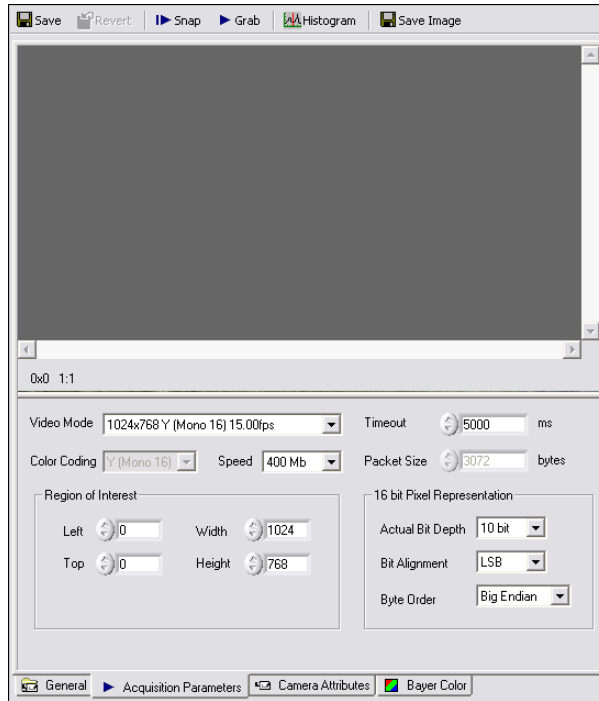

Figure 2. Setting Camera Attributes
8. Select the camera from the list. You then can view or modify the camera attributes from the **Properties Panel** located below the image viewer, as shown in Figure 2.